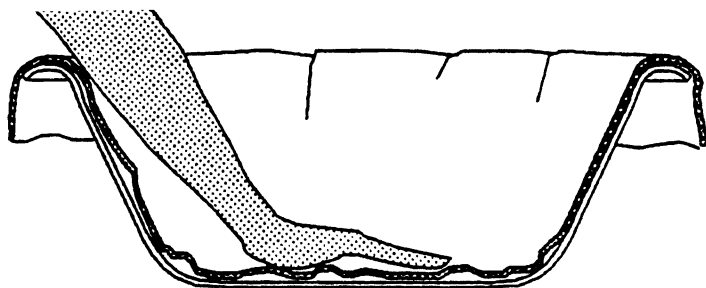

Figure 13. OPEN HUCK TOWEL TO FULLY CONTACT THE BASIN.
- b. Open towel fully and “pie crust” it into the basin (Figure 13).